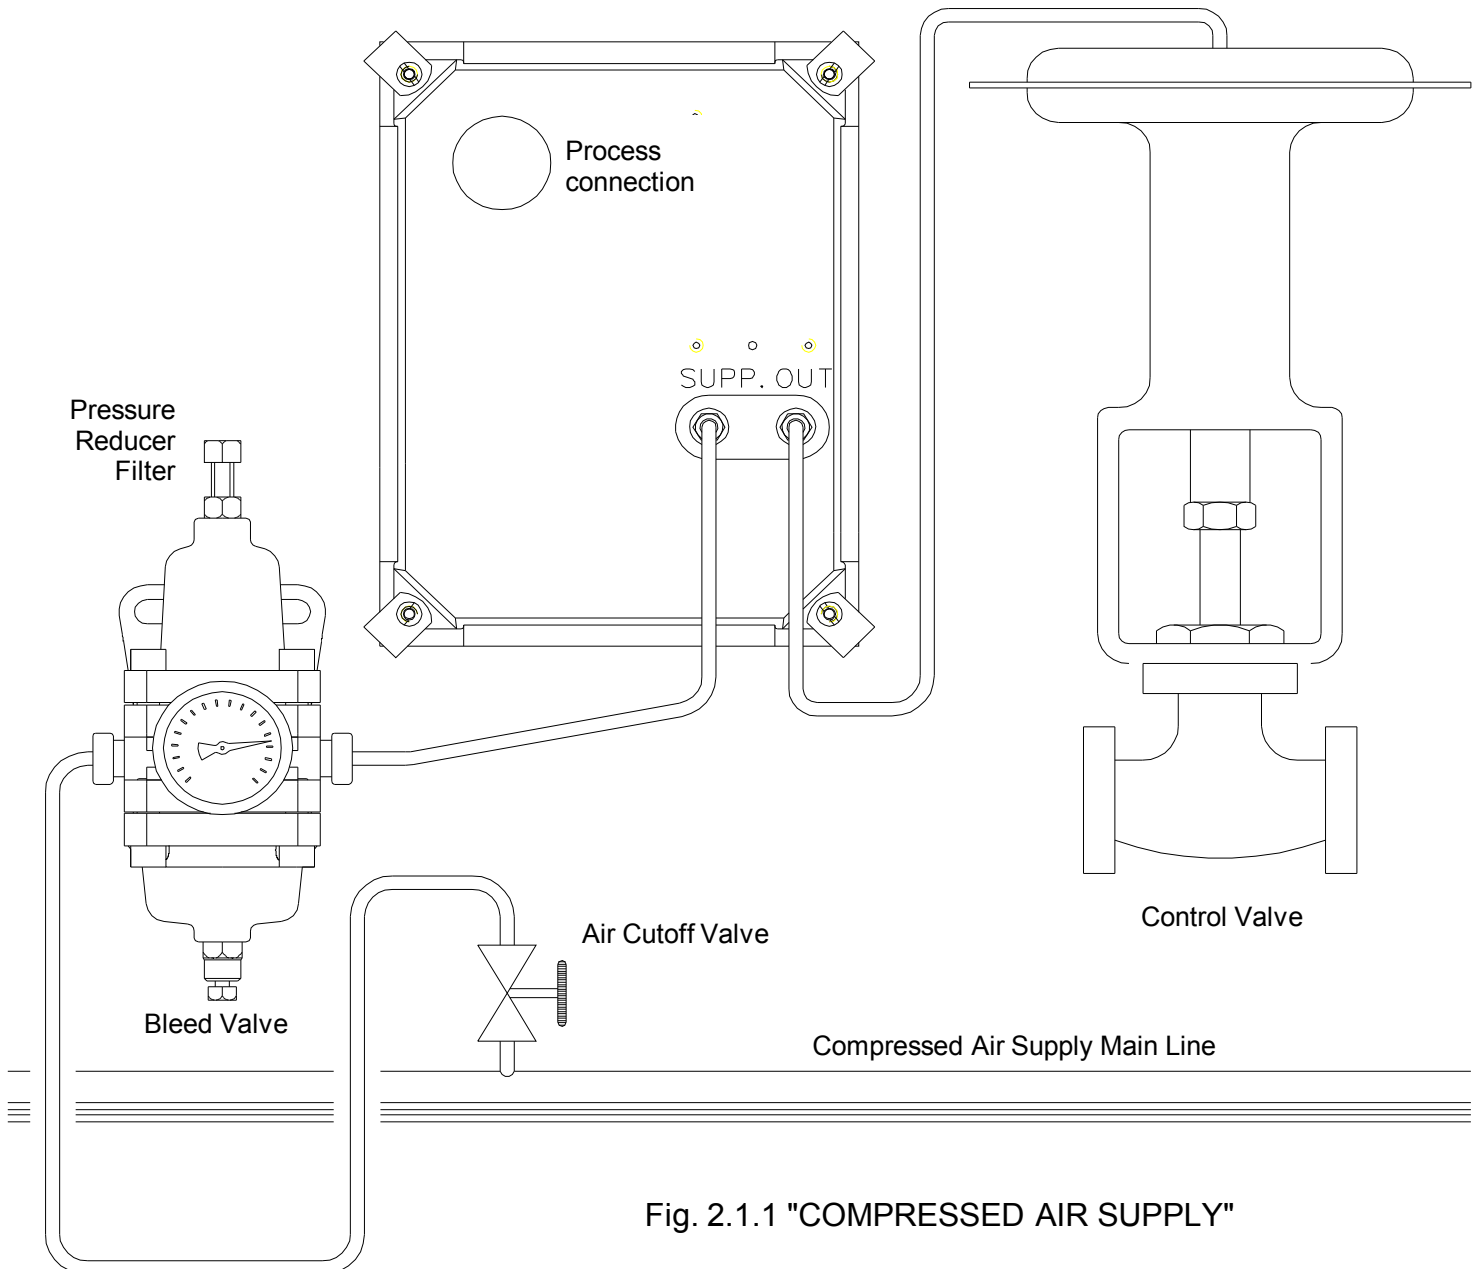
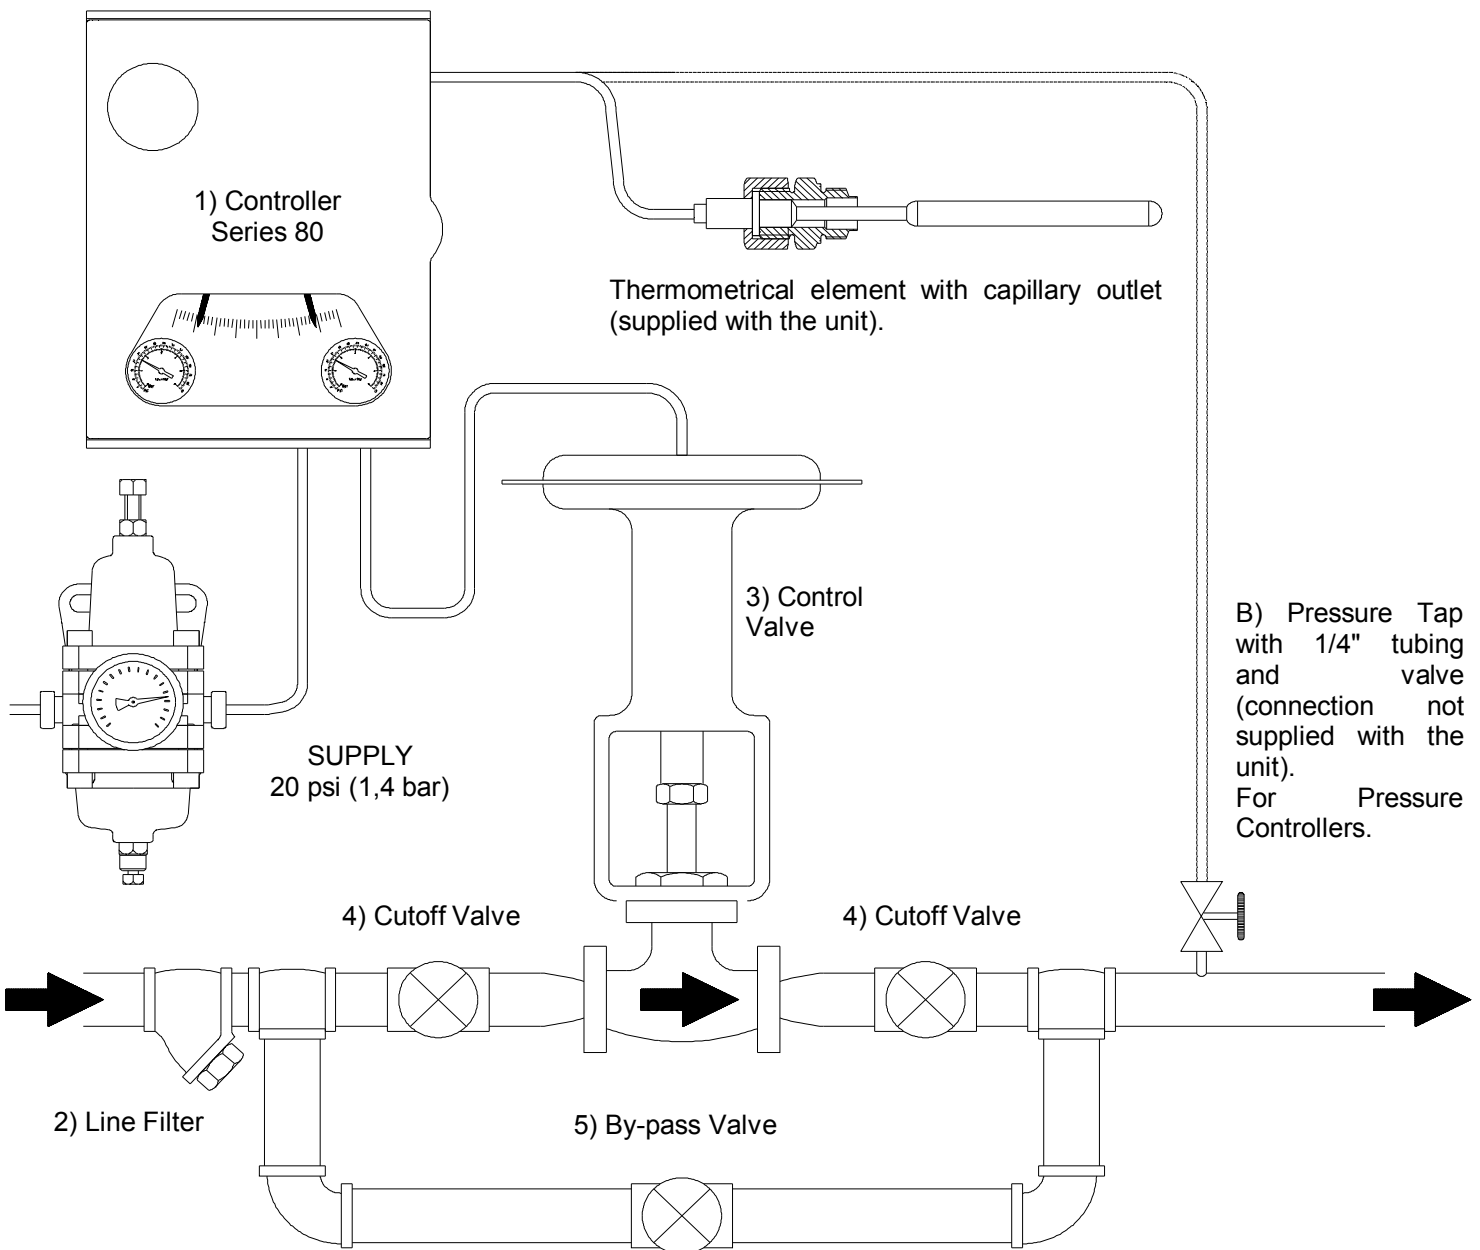

Fig. 2.1.1 "COMPRESSED AIR SUPPLY"
Fig. 2.2.1 "PNEUMATIC CONTROL VALVE INSTALLATION"
### 2.1. COMPRESSED AIR SUPPLY (Fig. 2.1.1)
## 2.2. PNEUMATIC CONTROL VALVE INSTALLATION (Fig. 2.2.1)
**A** - Turn the selector on manual (M).
**C** - Completely open the cutoff valves situated upstream and downstream to the control valve. Make sure that the bypass valve is closed (see Fig. 2.2.1).
**E** - Turn the selector on automatic (A).
A - Apply a 20 psi air supply ( $\pm 1.5$ ) and open the bleed valve of the pressure reducer filter (see Fig. 2.1.1) until any condensate has been completely discharged.
D - Make sure that the bypass valve (5) supplied with the pneumatic valve (3) is completely closed and that the downstream cutoff valve (4) is fully open (see Fig. 2.2.1).
E - Open the cutoff valve (4) situated upstream to the pneumatic valve slowly and completely (see Fig. 2.2.1).
**A** - Apply a 20 psi air supply ( $\pm 1.5$ ) and open the bleed valve of the pressure reducer filter (see Fig. 2.1.1) until any condensate has been completely discharged.
**B** - Use the set point knob (25) to adjust the red indicator (22) to the set point.
**C** - Rotate the knob (10) to adjust the proportional band to a 20% width and check the selected action of the instrument (DIRECT= the output signal increases as the variable increases; REVERSE= the output signal increases as the variable decreases).
**D** - Make sure that the bypass valve (5) supplied with the pneumatic valve (3) is completely closed and that the downstream cutoff valve (4) is fully open (see Fig. 2.2.1).
**E** - Open the cutoff valve (4) situated upstream to the pneumatic valve slowly and completely (see Fig. 2.2.1).
**H** - The black indicator may not coincide with the red indicator at the setpoint. To eliminate the difference, slightly turn the manual reset knob (14).
**B** - Open the integral action valve by rotating the knob (48) clockwise. Move the red indicator by rotating the set-point knob (25) to set the output signal manometer (21) to 9 psi. Completely close the valve by rotating the knob (48) counterclockwise to the lock.
**C** - Use the set point knob (25) to adjust the red indicator (22) to the setpoint.
**D** - Rotate the knob (10) to adjust the proportional band to a 20% width and check the selected action of the instrument (DIRECT= the output signal increases as the variable increases; REVERSE= the output signal increases as the variable decreases).
**E** - Make sure that the bypass valve (5) supplied with the pneumatic valve (3) is completely closed and that the downstream cutoff valve (4) is fully open (see Fig. 2.2.1).
**F** - Open the cutoff valve (4) situated upstream to the pneumatic valve slowly and completely (see Fig. 2.2.1).
**I** - The black indicator may not coincide with the red indicator at the setpoint. To eliminate the difference, gradually open the integral action valve until the indicators coincide and initiate a deliberate disruption by rapidly moving the red indicator from the setpoint. If the black indicator starts fluctuating, slowly close the valve (48) until stability is restored and the indicators coincide. Initiate a new disruption and check the fluctuation of the black indicator. Turn the knob (48) again, if necessary.
**A** - Open the derivative action valve by rotating clockwise the knob (53) to the lock.
**B** - Apply a 20 psi air supply ( $\pm 1.5$ ) and open the bleed valve of the pressure reducer filter (see Fig. 2.1.1) until any condensate has been completely discharged.
**C** - Open the integral action valve by rotating the knob (48) clockwise. Move the red indicator (22) by rotating the set-point knob (25) to adjust the output signal manometer (21) to 9 psi. Completely close the valve by rotating counterclockwise the knob (48) to the lock.
**D** - Use the set point knob (25) to adjust the red indicator (22) to the setpoint.
**E** - Rotate the knob (10) to adjust the proportional band to a 20% width and check the selected action of the instrument (DIRECT= the output signal increases as the variable increases; REVERSE= the output signal increases as the variable decreases).
**F** - Make sure that the bypass valve (5) supplied with the pneumatic valve (3) is completely closed and that the downstream cutoff valve (4) is fully open (see Fig. 2.2.1).
**G** - Open the cutoff valve (4) situated upstream to the pneumatic valve slowly and completely (see Fig. 2.2.1).
**L** - The black indicator may not coincide with the red indicator at the setpoint. To eliminate the difference, gradually open the valve (48) until the indicators coincide and initiate a deliberate disruption by rapidly moving the red indicator from the setpoint. If the black indicator starts fluctuating, slowly close the valve by turning the knob (48) until stability is restored and the indicators coincide. Initiate a new disruption and check the fluctuation of the black indicator: if necessary, adjust the valve again by turning the knob (48). Perform the adjustment one more time. If, during the adjustment, the manometer (21) indicates values inferior to 4 psi or superior to 12 psi, gradually close the derivative action valve by rotating the knob (53) until the reading of the manometer during the adjustment operation is  $4 \div 12$  psi.